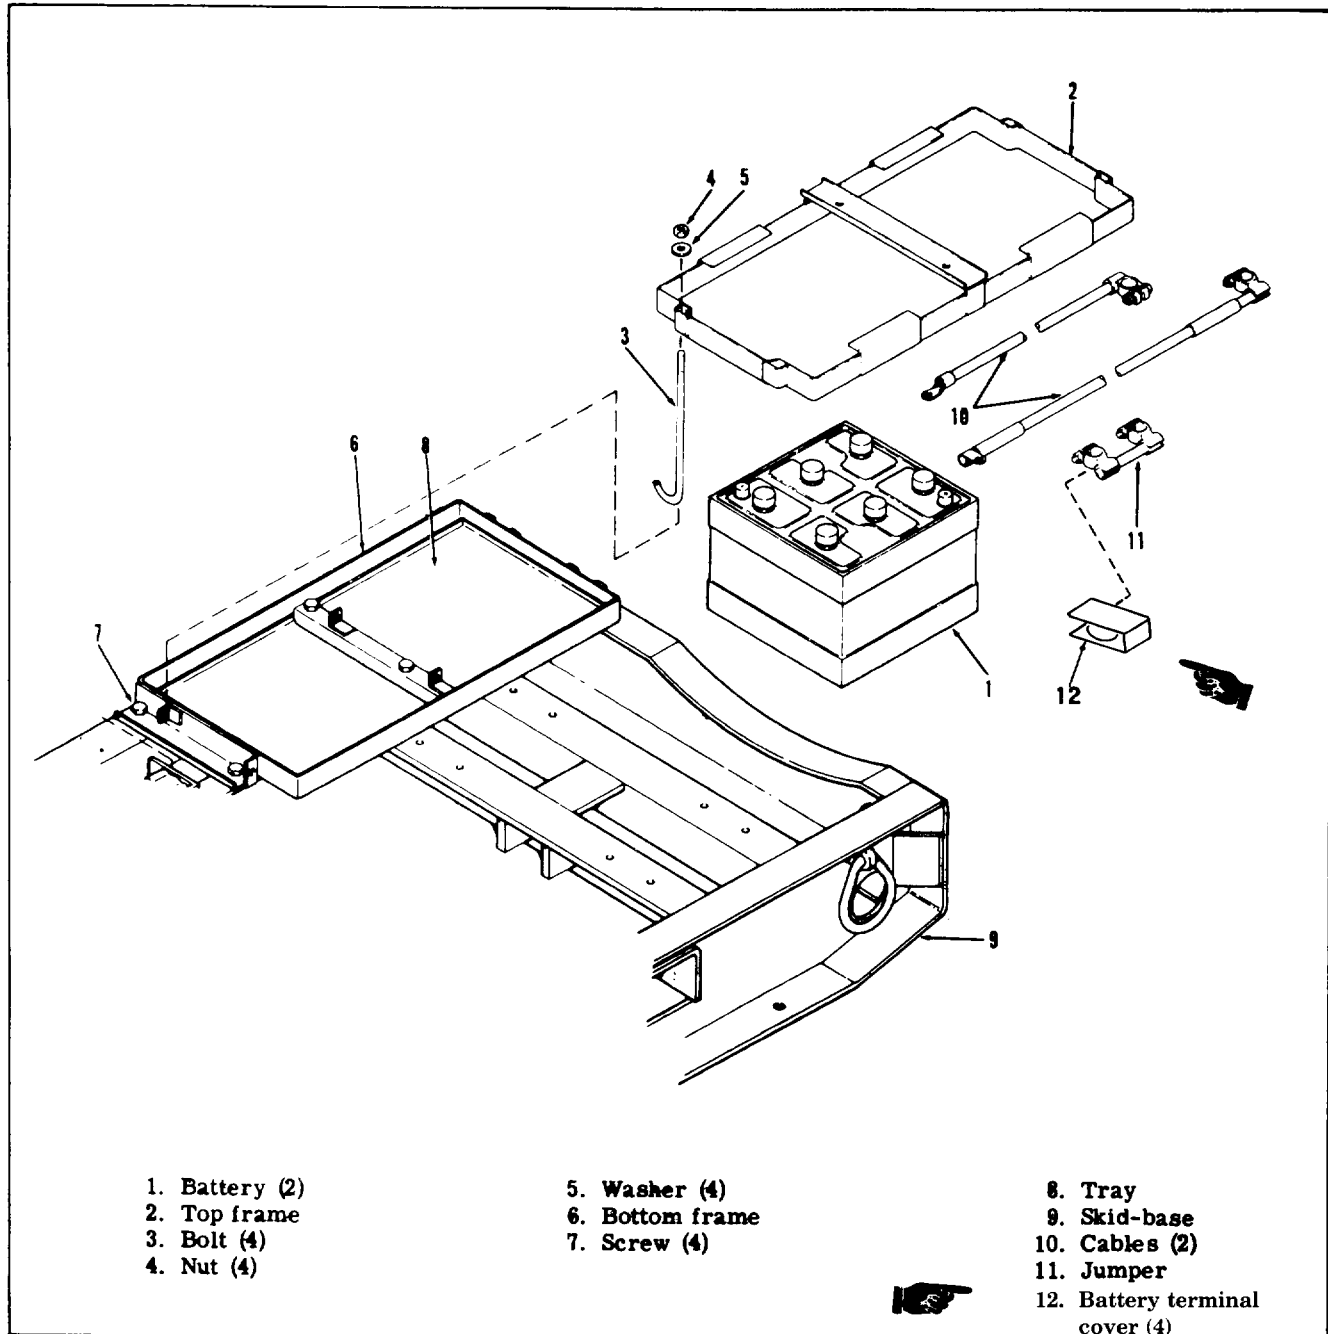
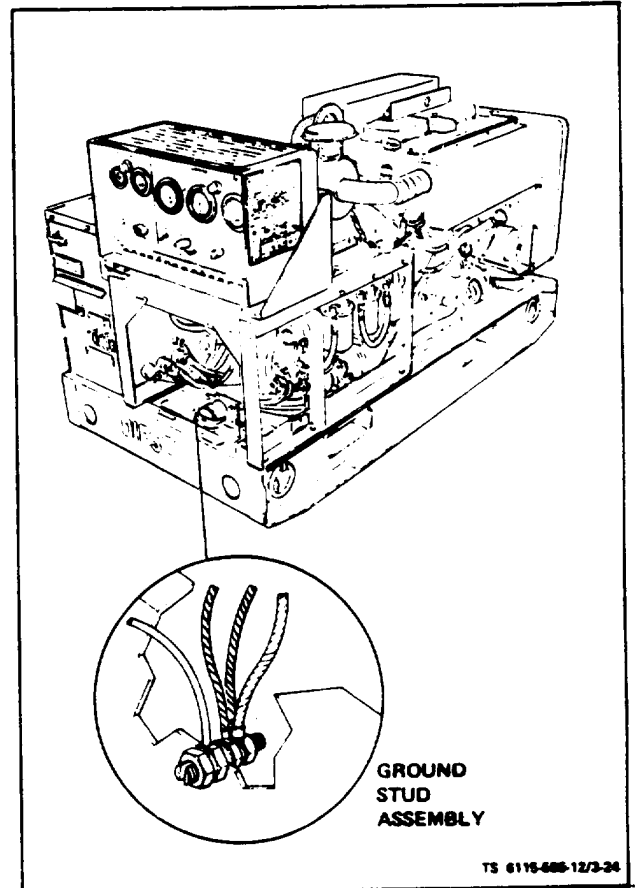

Figure 3-23. Battery and Frame
Figure 3-24. Ground Stud
a. Inspect (see figure 3-23).
(1) Battery Frame Bottom. On ASK equipped generators, remove BATTERIES access door. Inspect battery frame bottom (6) for dents, cracks, corrosion, or other physical damage. Check to see that battery frame bottom is free of corrosion.
(2) Battery Tray. Check to see that battery tray (8) is free of corrosion. Check that battery tray is securely attached to skid-base (9) with screw.
(3) Ground Stud (see figure 3-24). On ASK equipped generators, lift rear penal flap and inspect ground stud for deformed threads, corrosion, or other physical damage. Check that ground stud is securely attached to skid-base. Check that connection to stud are clean and tight.